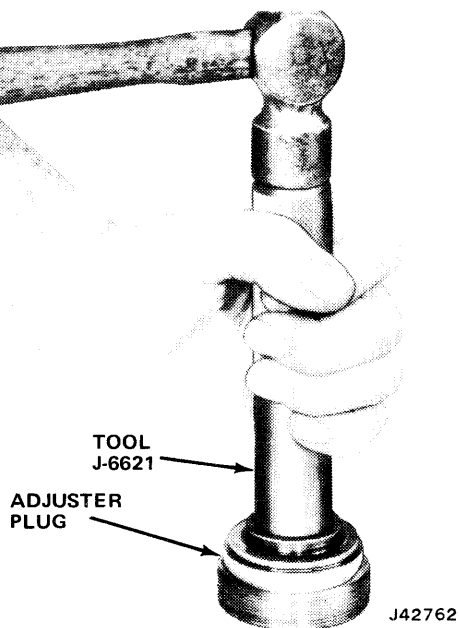

Fig. 11-90 Installing Needle Bearing in Adjuster Plug
(1) Lubricate all adjuster plug components with power steering fluid.
(2) Install needle bearing using Tool J-6621 (fig. 11-90). End of bearing must be flush with lower surface of stub shaft seal bore in adjuster plug.